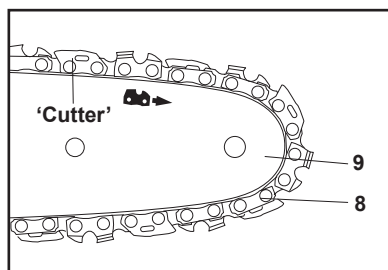

Fig. 2
4. Spread the saw chain (8) out with the cutting edges of the chain pointing in the direction of rotation. The direction of rotation can be seen marked on the body of the saw, on the inside of the chain saw cover (12).
Slide the saw chain (8) into the groove around the guide bar (9). Ensure saw chain (8) is installed in correct direction of rotation (Fig. 2).